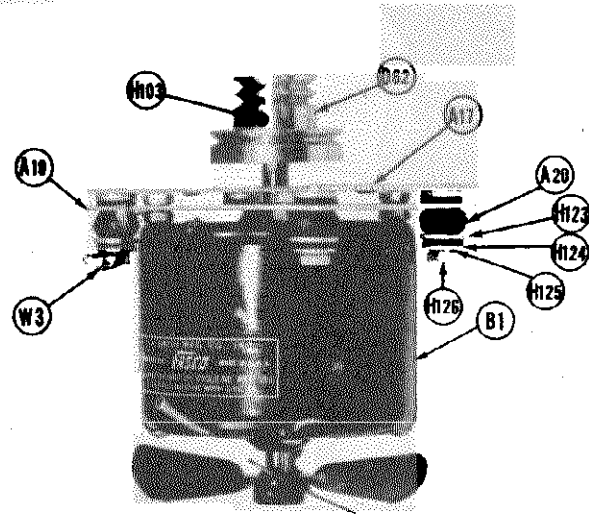

Fig. 7—Drive Motor
1. A single motor (B-1 Fig. 7) which drives both the capstan and the reeling mechanism. It is an induction type motor and is resiliently mounted on a bracket which can be shifted in its position for the purpose of adjusting the tension of the rubber drive belts. A fan is attached to the drive motor shaft to cool the motor.